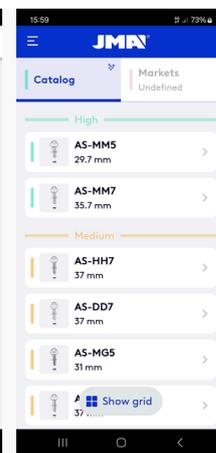

Fig. 29
2. Show list: The keys matching the captured image are listed from top to bottom in a more compact format, rather than from left to right. See Fig. 29